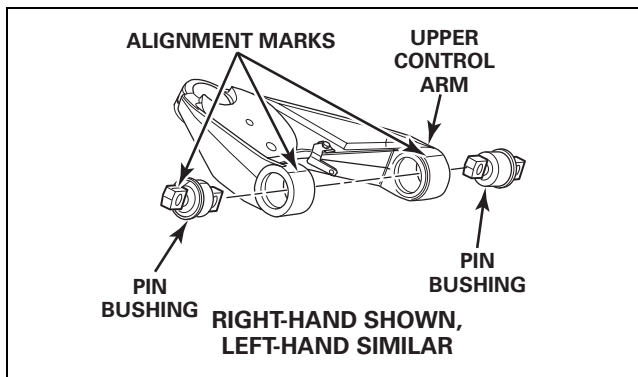
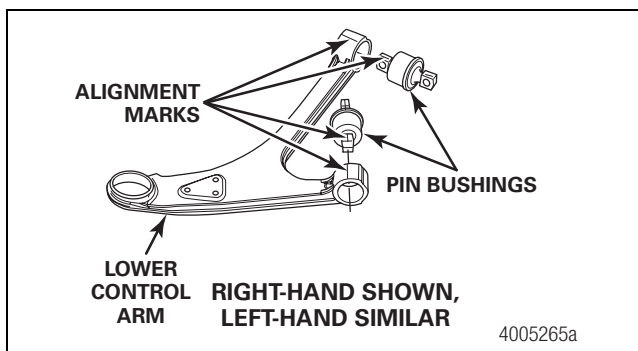
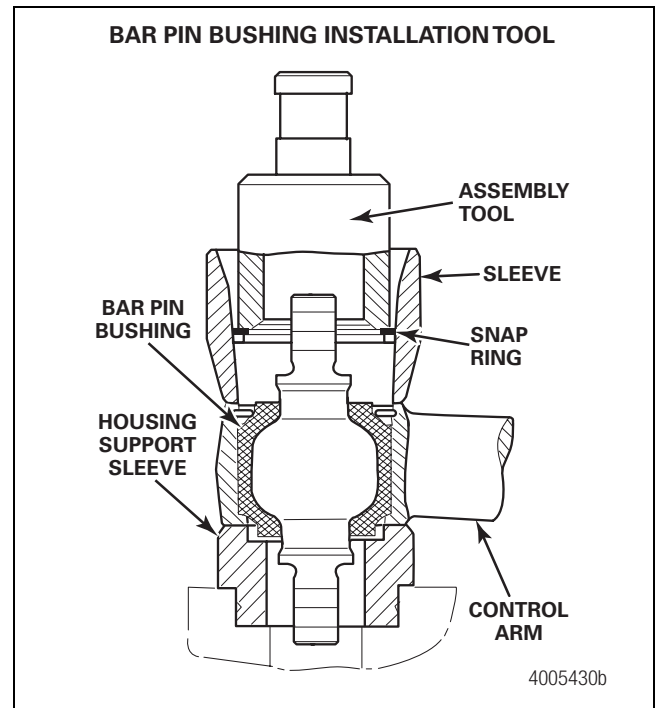

Figure 7.1
Figure 7.2
Figure 7.3
1. Place the housing support sleeve onto a suitable press. Place the control arm onto the housing support sleeve with the bore facing UP. Refer to Section 10 for tool drawings. Figure 7.1, Figure 7.2 and Figure 7.3.